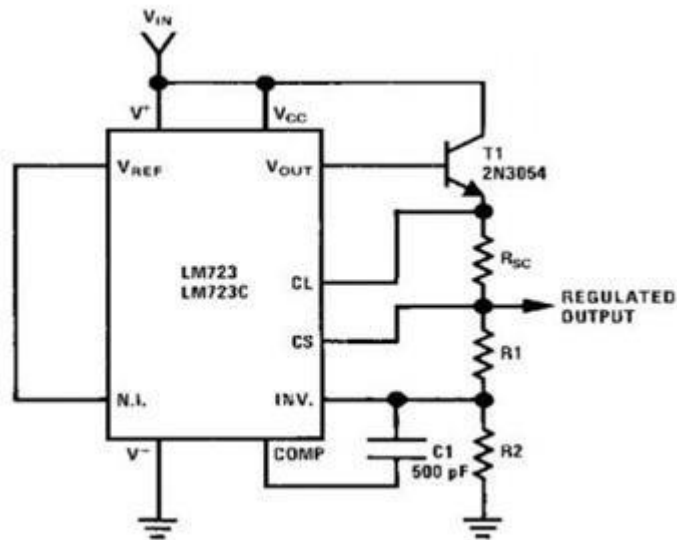

Figure 5.6.4. Circuit connection of IC 723 as a High voltage High current regulator
- ✓ An external transistor Q is added in the circuit for high voltage low current regulator to improve its current sourcing capacity. Circuit connection of IC 723 as a High voltage High current regulator is shown in figure 5.6.4. below